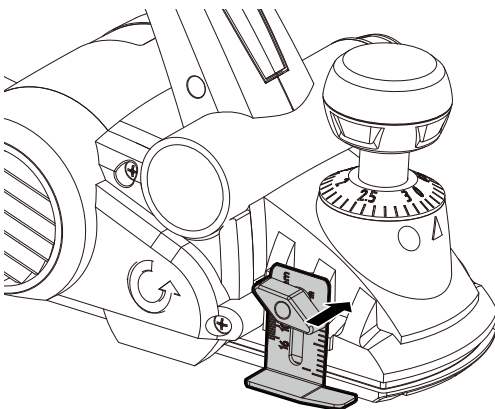

Figure 3
2. ASSEMBLING THE REBATE GUIDE (SEE FIG. 3)